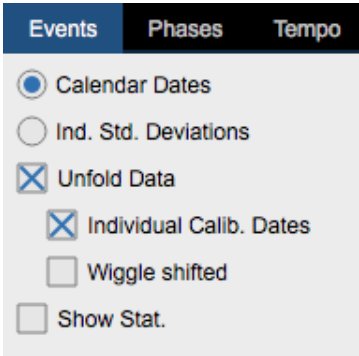
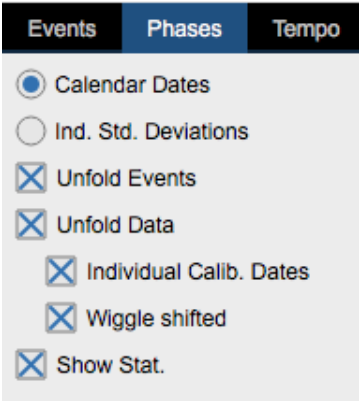

Figure 62 – Events tabs
Figure 64 – Phases tabs
- For the Data: If the item is a Data result, the distribution curve obtained from the FFTW process is displayed with the same color as the parent Event. Under it, the solid area is limited by the HPD region. If you have ticked the **Unfold Data** >> **Individual Calib. Date**, the individual Calibration distribution without model constraints (see section 4.3.6) is displayed in grey outline. If you have ticked the **Unfold Data** >> **Wiggle shifted** (see Figure 62 and Figure 64, one more curve is displayed in a grey dashed line. If you checked **Density Options** >> **Show confidence Bar** (see section 8.3.2), the credibility interval is plotted as a horizontal bar above the curves.